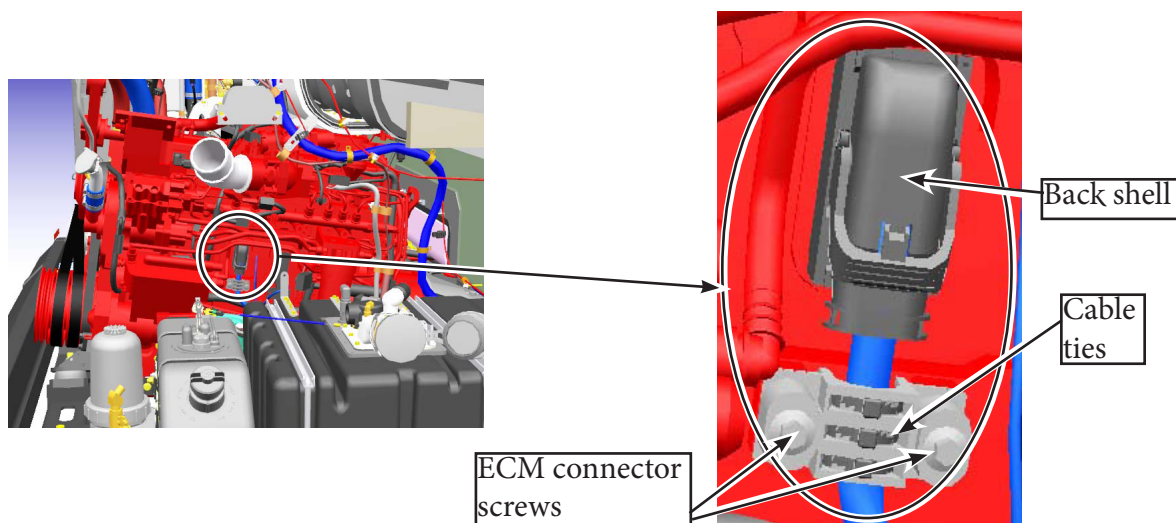

Figure 31 - Disassemble the ECM Connector
- 2.18. Remove the two ECM connector strain relief screws, disconnect the ground splice connector and cut the 3 cable ties (see Figure 31).